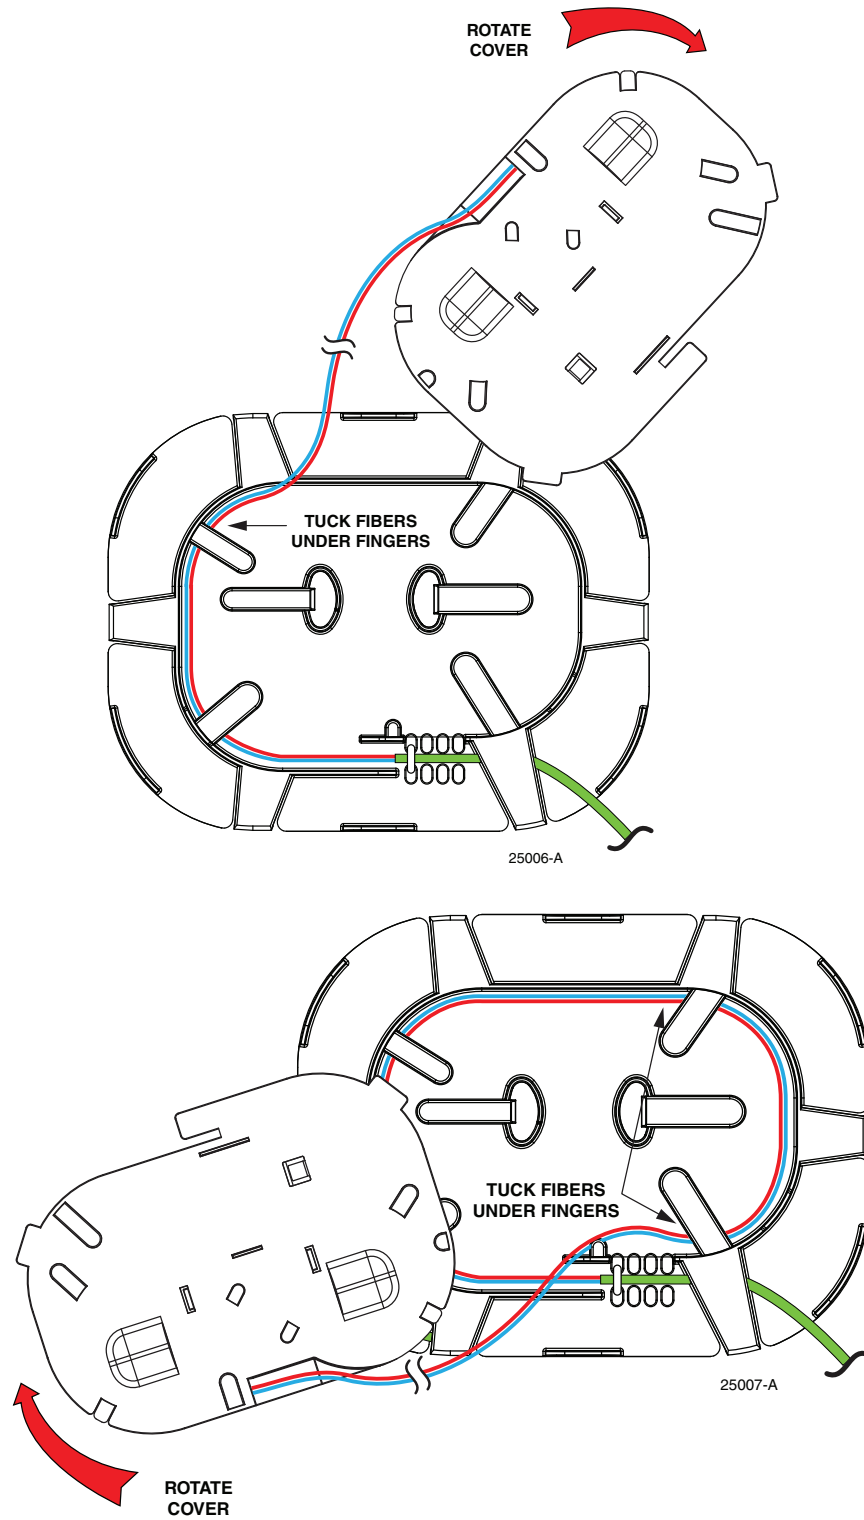

Figure 31. Tucking Fibers Into Splice Tray
5. Rotate the cover clockwise, while tucking the fibers in under the fingers in the central area of the splice tray, as shown in Figure 31.